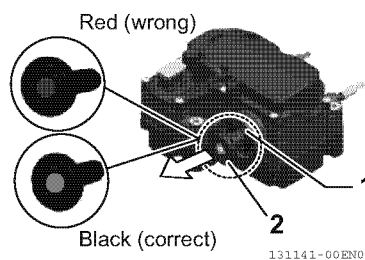

Fig. 25-41
- 3 - Pull out the equalizing element (2, Fig.25-41) inserted inside the filter element (1, Fig.25-41). At this time, make sure that the identification color at the center of the equalizing element is black.